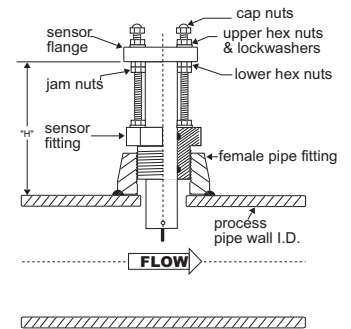

Fig. 7
- C. Insert the flow sensor into the sensor fitting, making sure the alignment hole on the sensor flange is pointing downstream. (Fig. 7)
- E. Thread upper hex nuts with lock washers until they contact the sensor flange and tighten. Check for proper "H" dimension and readjust if necessary. (Fig. 7)